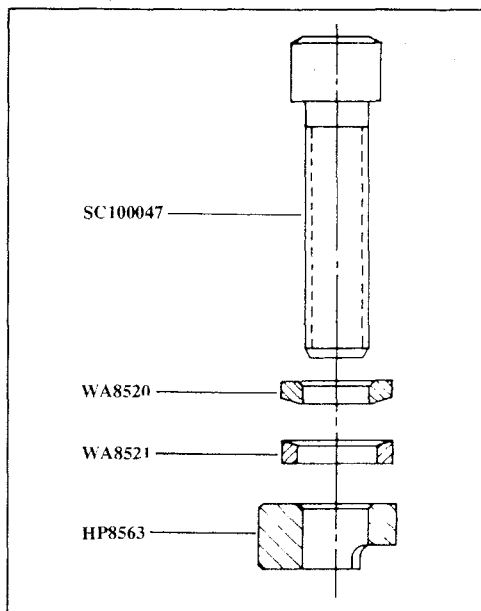

FIGURE 1-62
- (7) Tighten the indexing plate screw to the required torque value.
- (8) Apply a film of grease to the lower hydraulic head gasket and then insert gasket into hydraulic head bore in pump housing. Make certain that gasket is centered in housing bore.
- (9) Position the camshaft in full retard with the keyway at exactly 12 o'clock position.
- (10) Align the locating slot in the flange of the hydraulic head with the tongue of the indexing plate, if so equipped. Otherwise, align the slot in the head flange with the machined slot in the pump housing. Then, rotate the hydraulic head face gear until the line mark on the face gear is aligned with the raised mark in the pump housing timing window.
- (11) Insert the hydraulic head assembly carefully into the pump housing.
- (12) Assemble the four head retaining clamps, screws and eight washers according to Fig. 1-62. They **must** be assembled as shown with the convex surface on WA 8520 mating with the concave surface on WA 8521. Install the head retaining hardware and tighten the screws down finger tight.